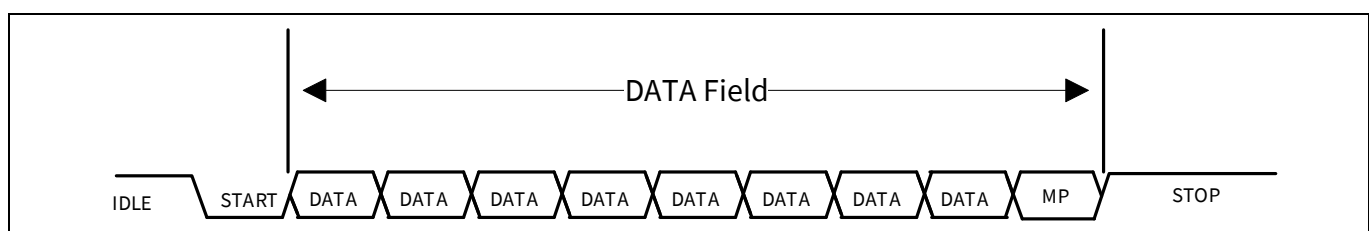

Figure 18-13. UART MP data frame
- Using 9-bit data field, with the ninth bit as address/data flag (MP bit). When set high, it indicates an address byte; when set low it indicates a data byte. A data frame is illustrated in Figure 18-13